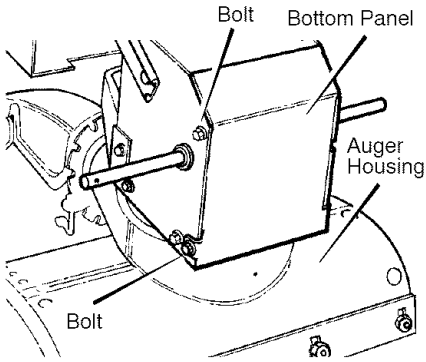

Figure 39
3. Loosen the **bolts** on each side of the **bottom panel** (see Figure 39).